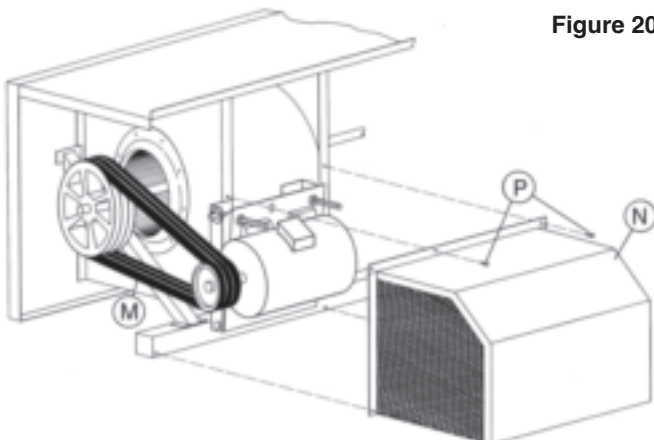

Figure 21 – Motor Guard and Powerband Belt Installation
6. Install the belts M around the fan sheave and motor sheave (Figure 21). Tighten belts by adjusting nuts on J-bolts. Do not over tension the belts. When the belts are properly adjusted, the deflection at the center of the belt should be approximately 1/2" with moderate hand pressure.
9. To install the motor guard N, line up the holes and fasten with the self-tapping screws P (Figure 21). Check to ensure that the motor guard does not make contact with the drive sheave or belts.